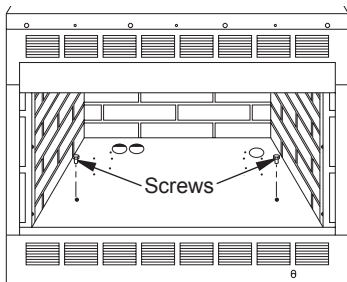

Figure 13 - Removing Firebox Bottom
2. Lift and remove firebox bottom (see Figure 13).